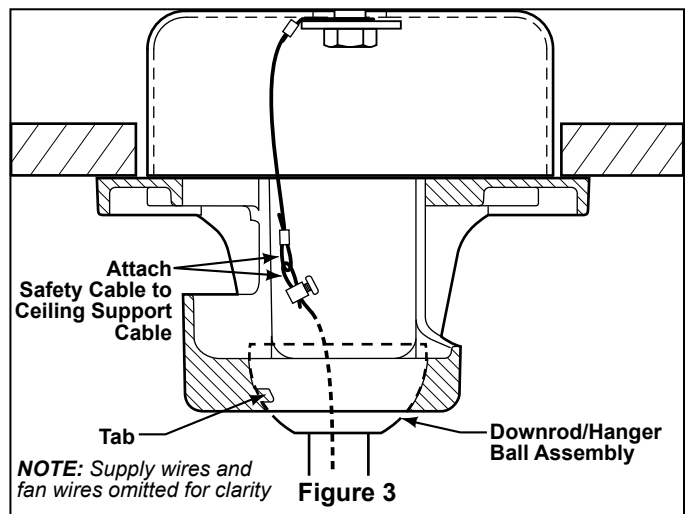

Figure 3
3. Assemble two Collars and 4" Sleeve, as shown (Figure 3).
7. Install 3 - 40 watt candelabra bulbs (not included) (Figure 3)
11. Reinstall the Hanger Ball (Figure 3) on the Downrod as follows. Route the three 80" wires through the Hanger Ball. Position the Pin through the two holes in the Downrod and align the Hanger Ball so the Pin is captured in the groove in the top of the Hanger Ball. Pull the Hanger Ball up tight against the pin. **Securely tighten the setscrew in the Hanger Ball. A loose setscrew could create fan wobble.**
4. Carefully lift the fan and seat the downrod/hanger ball assembly on the hanger bracket that was just attached to the ceiling joist. Be sure the groove in the ball is lined up with tab on the hanger bracket. (Figure 3)
5. Attach the safety cable to ceiling support cable. Slide cable clamp onto safety cable (from fan). Place the end of cable through the loop of ceiling support cable. Pull as much cable through loop as possible. Feed end of cable into clamp hole and firmly tighten screw (Figure 3). Cut off excess safety cable.